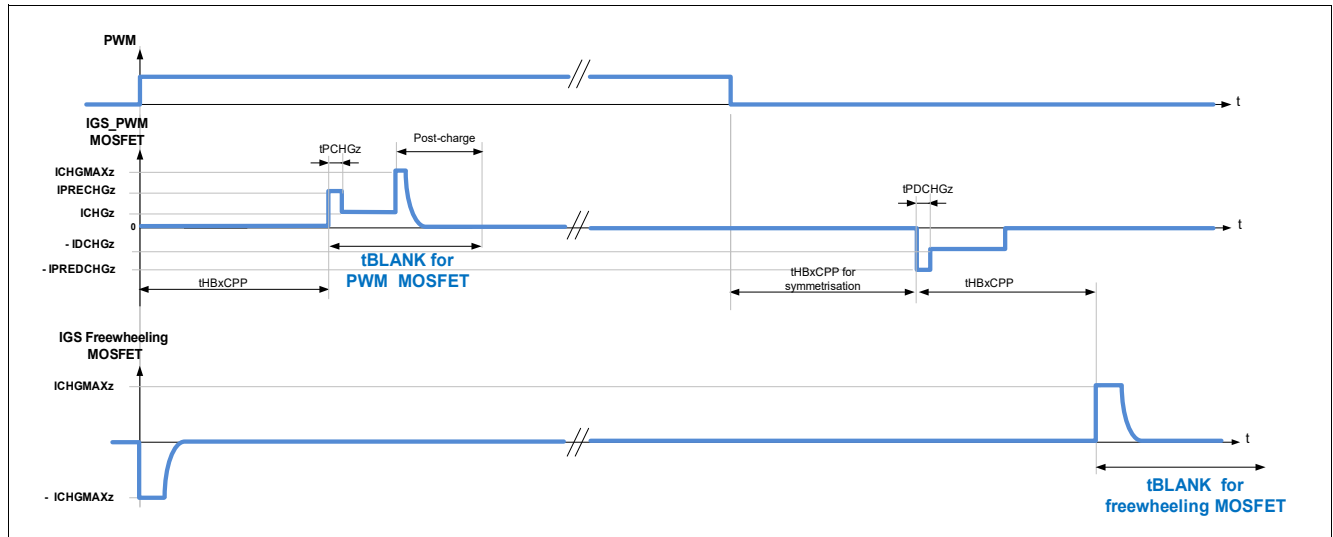

Figure 66 Blank time for half-bridges in PWM operation with $AFW = 1$
- the blank time of the PWM MOSFET starts at the expiration of the cross-current protection time of the PWM MOSFET. Refer to Figure 66.
- the blank time of the free-wheeling MOSFET starts after expiration of the cross-current protection time at turn-off of the PWM MOSFET. Refer to Figure 66.